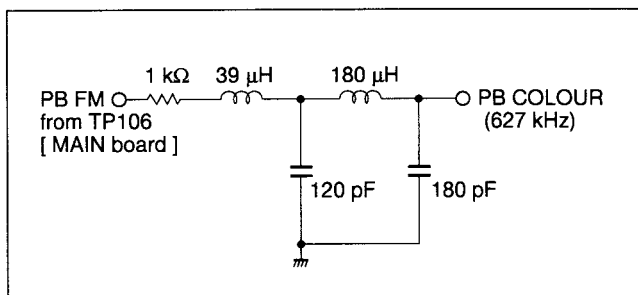
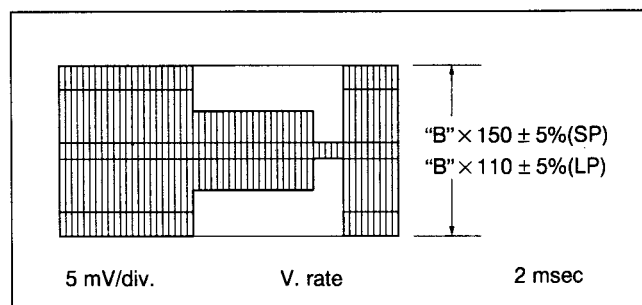

Fig. 3-3-4 LPF
Fig. 3-3-5 REC colour level
- (1) Connect an oscilloscope to PB COLOUR of a LPF(refer to Fig. 3-3-4) and TP111(negative slope) on the MAIN board.
- (2) Playback the SP colour bar signal of MH-2H alignment tape.
- (3) Set the tracking of the Front panel to the Auto tracking off position by simultaneously pressing the TV PROG "+" and "-" buttons.
- (4) Adjust by pressing the TV PROG "+" or "-" buttons of the Front panel for maximum level of the colour waveform and make a note of the higher colour level "B".
- (5) Press the STOP/EJECT button and eject the MH-2H alignment tape.
- (6) Set EVR mode by pressing "K" button of the presetting unit more than 2 seconds.
- (7) Set "A : 2" by pressing 2 digit key of the remote controller.
- (8) Before recording, adjust TV PROG "+" or "-" button of the remote controller so that the higher level channel becomes $150 \pm 5\%$: SP ($110 \pm 5\%$: LP) of the note "B" level during playback as shown in Fig. 3-3-5.
- (9) Record a colour bar signal in SP (LP) mode, and playback recorded colour bar signal.
- (10) Set normal VCR mode by pressing "K" button again so adjustment data is memorized.